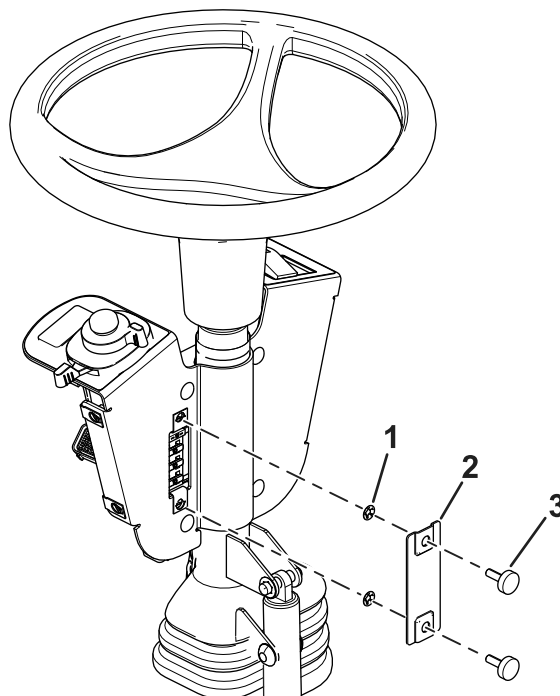

**Figure 8**
8. Loosen the bolts around the steering-column base (Figure 8).
9. Raise the base up and drill a 22 mm (7/8 inch) hole as shown in Figure 8.